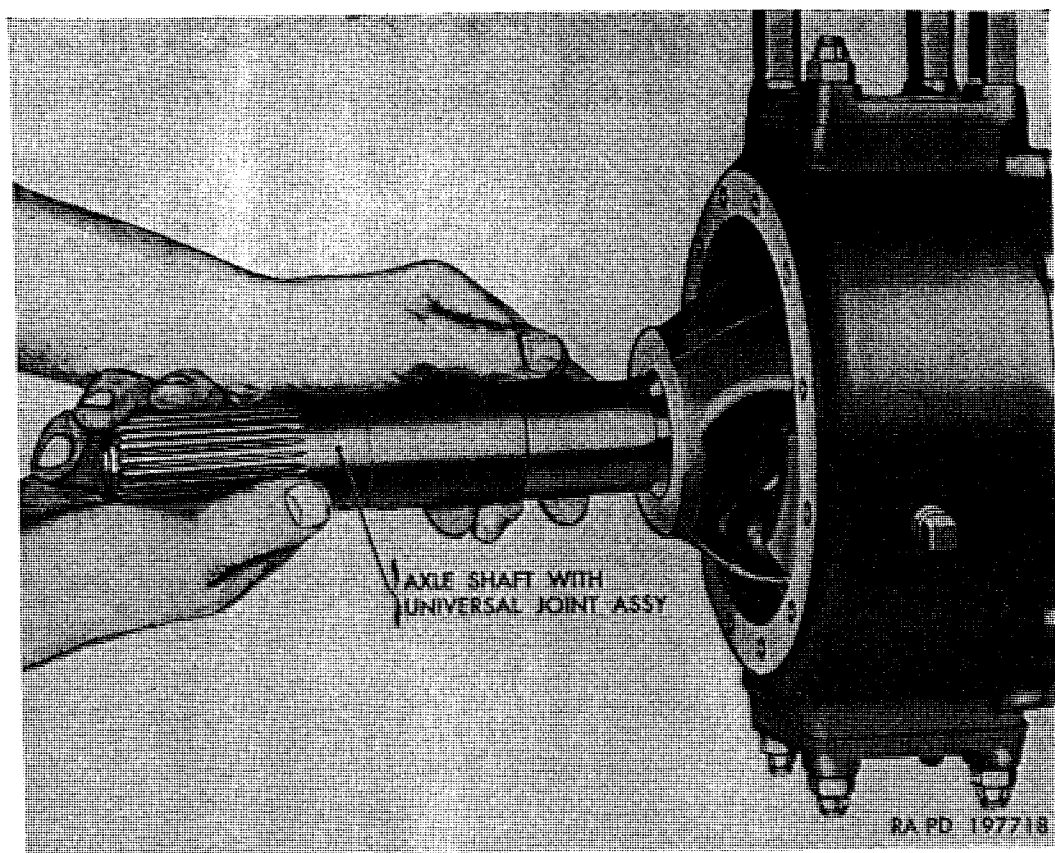

Figure 232. Removing or installing axle shaft and universal joint assembly.
- (7) *Remove axle shaft and universal joint.* Pull assembly straight out (fig. 232) as assembly is supported to avoid damage to axle shaft oil seal in housing.